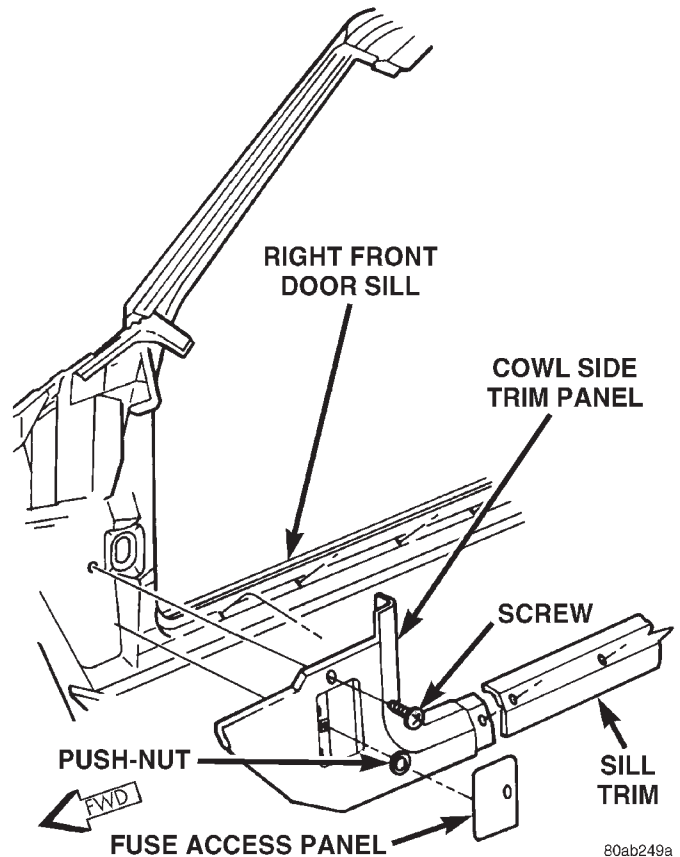

Fig. 6 Right Cowl Side Inner Trim Remove/Install
(1) Disconnect and isolate the battery negative cable.
(2) Remove the fuse access panel by unsnapping it from the right cowl side inner trim panel (Fig. 6).
(3) Remove the push nut that secures the right cowl side inner trim panel to the junction block stud.
(4) Remove the screw located above the fuse access opening that secures the trim panel to the right cowl side inner panel.